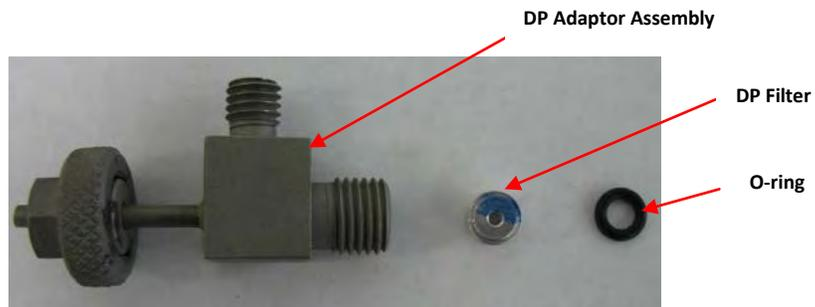

Figure G4 – DP adaptor accessories
8. Locate a DP filter and associated O-ring that are to be installed in the DP adaptor (figure G4).